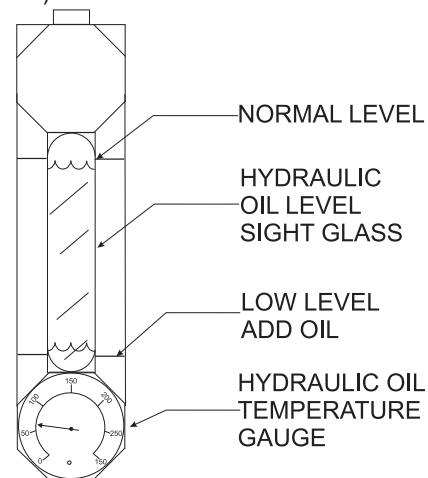

Figure 13. Hydraulic Oil Sight Glass
13. Determine if the hydraulic oil level is low by observing the level of the oil in the **Hydraulic Oil Sight Glass** (Figure 13).